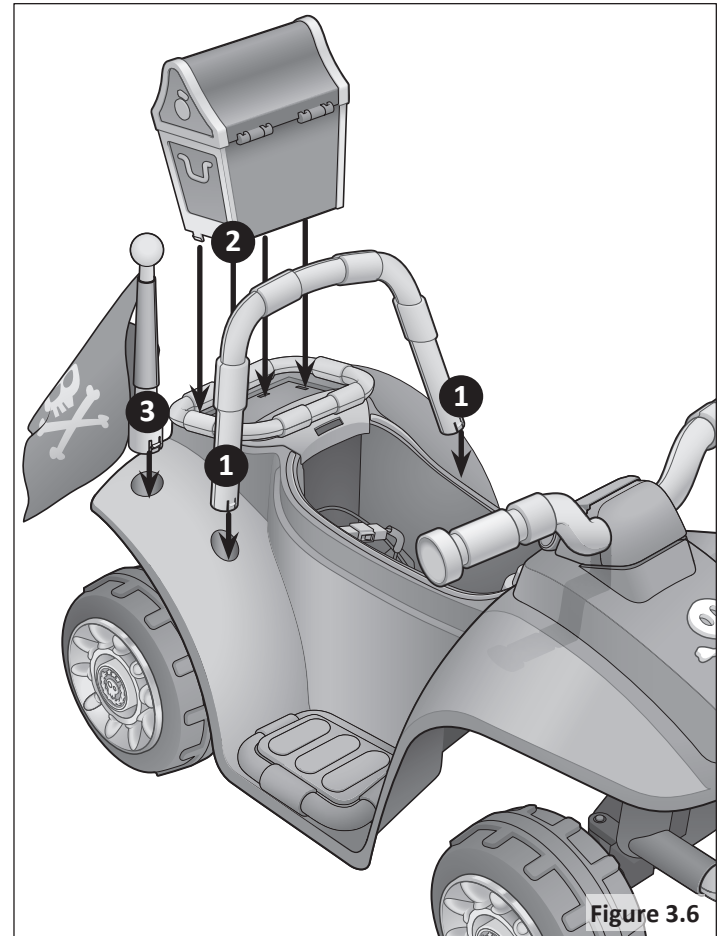

Figure 3.6
- 1 Align the bottom of the rollbar with the holes located on each side of the seat opening, and press down firmly on the rollbar until it snaps into place. **Figure 3.6**
- 2 Align the four tabs on the bottom of the treasure chest with the slots located on the back of the quad body, and press down firmly on the treasure chest until it snaps into place. **Figure 3.6**
- 3 Align the end of the flag with the hole located on the back corner of the quad body, and press down firmly on the flag until it snaps into place. **Figure 3.6**